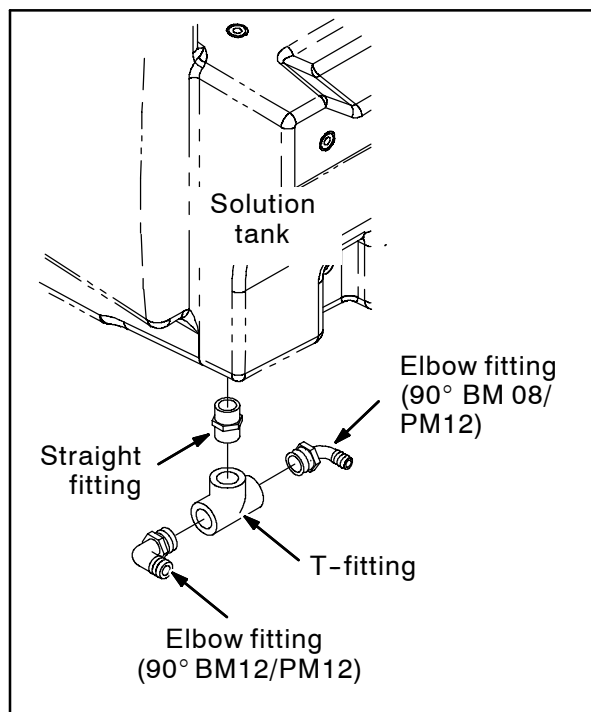

FIG. 7
12. Install two 90° fittings and a straight fitting into the t-fitting. Refer to Fig. 7.
13. Install the t-fitting from the previous step into the plastic bulk head fitting on the bottom of the solution tank. Refer to Fig. 7.
15. Use a hose clamp to connect the 96" PVC hose to the outer 90° fitting on the t-fitting assembly. Refer to Fig. 7.
16. Use a hose clamp to connect the 54" PVC hose to the elbow fitting closest to the center of the machine. Refer to Fig. 7.